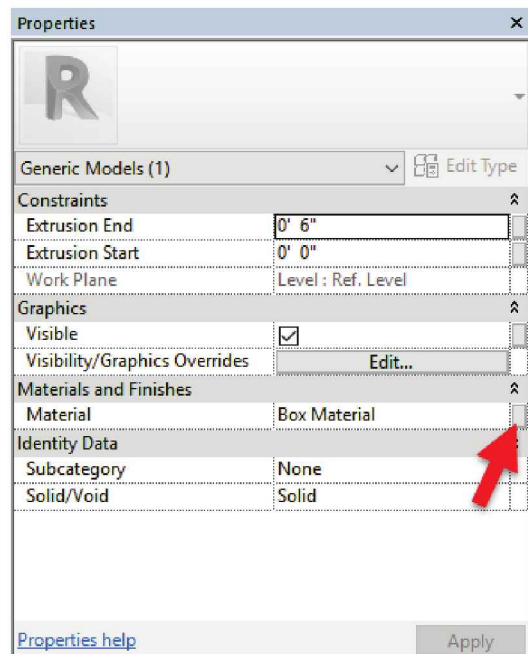

FIGURE 15-4.18 Mapping material to parameter
36. Click the small mapping icon to the far right of the **MATERIAL** Parameter (see Figure 15-4.18).